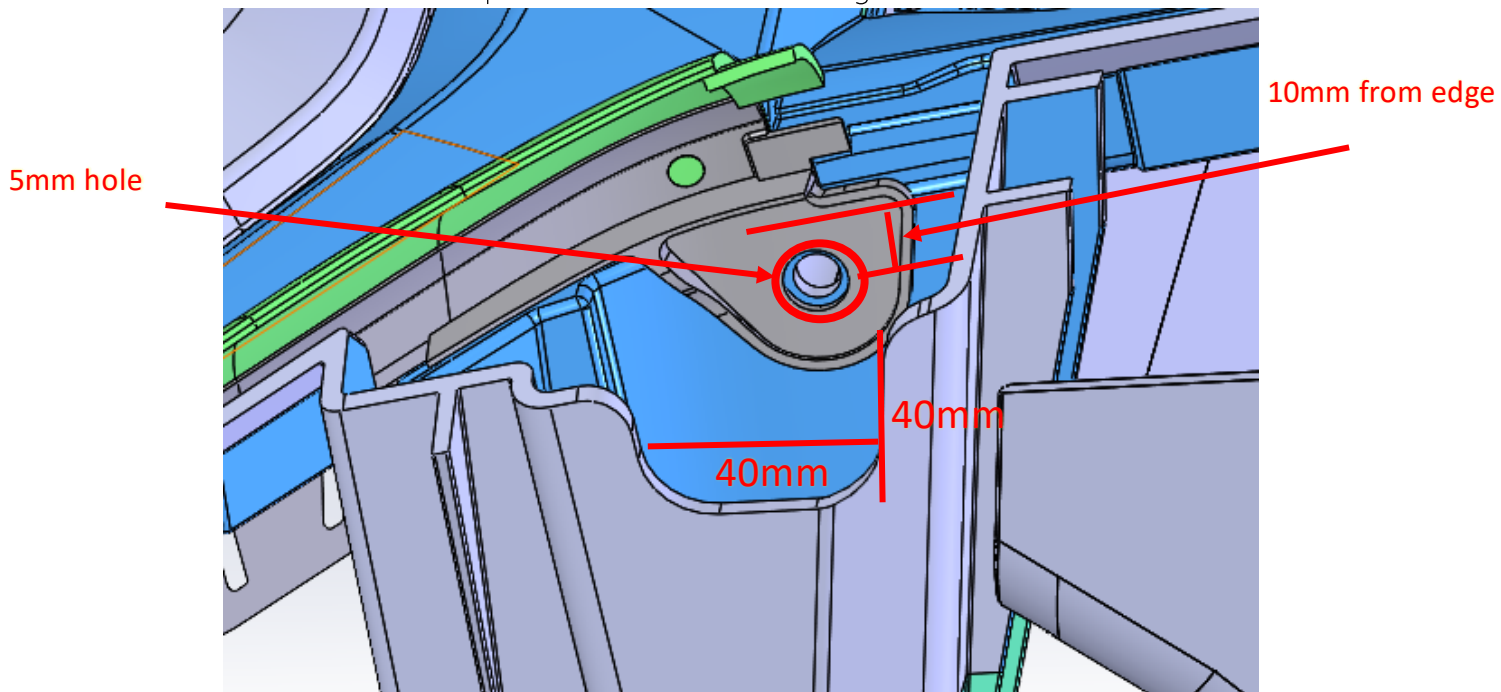

Figure 14 – Passenger Bottom View Upper Fascia
- b. Drill 5mm hole in position on each side – Fig. 14